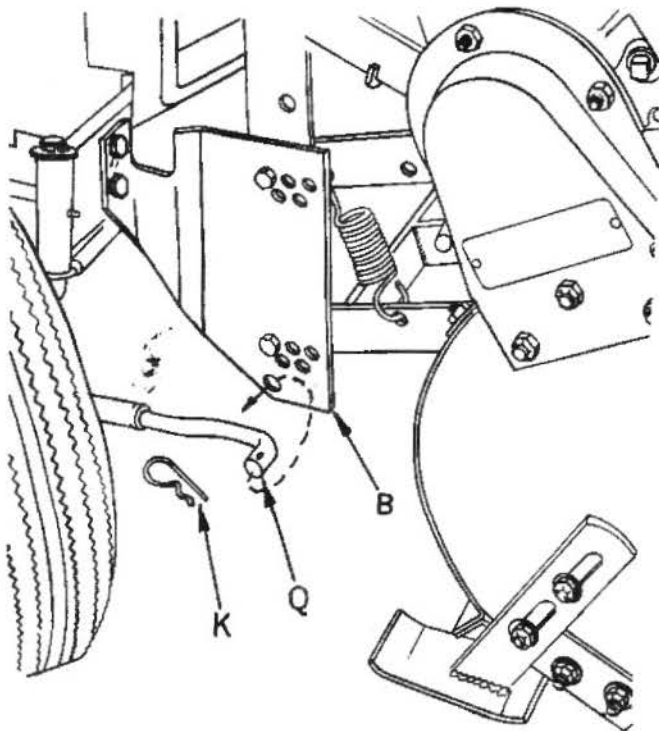

FIG. 7
12. Refer to Fig. 7. Assemble R.H. push rod (Q) to hanger bracket R.H. (B) as shown and secure with spring retainer (K).